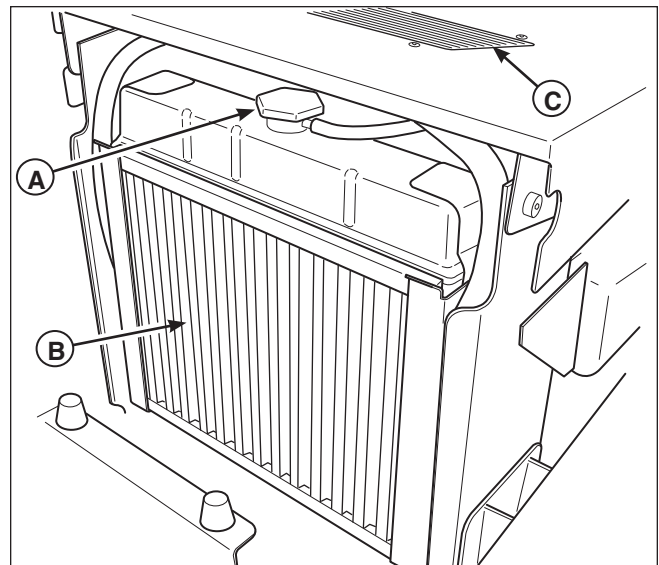

Figure 18. Radiator & Oil Cooler
1. Remove the radiator pressure cap (A, Figure 18) to check the fluid level.